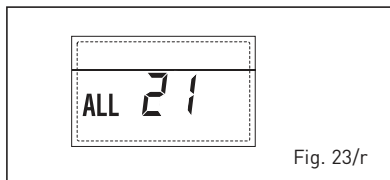

Fig. 23/r
- SAFETY THERMOSTAT INTERVENTION SECOND MIXED ZONE "ALL 22" (fig. 23/s)